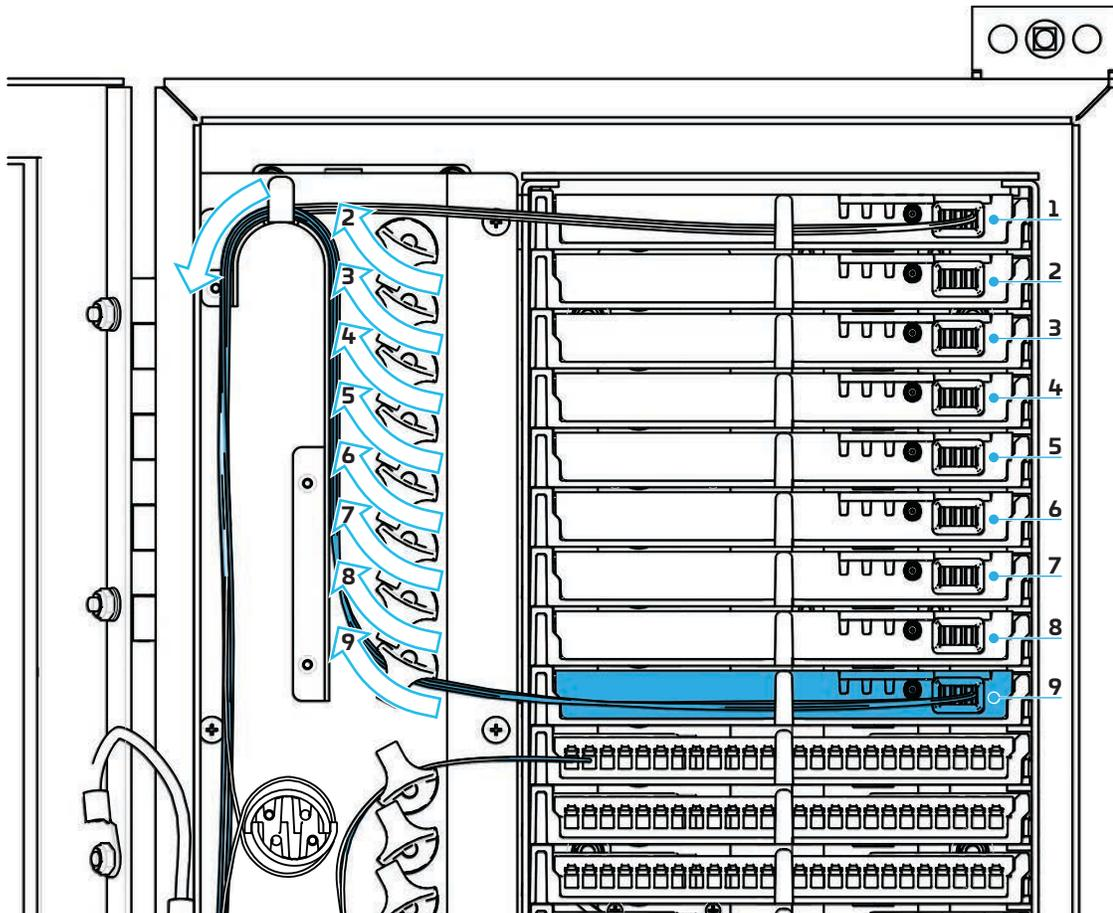

Figure 17. Order of the splitter trays
1. Align the tray with the designated slot. (Figure 17 shows the order of the installation of the splitters).
1. Route the splitter input directly to the left within the cable guide (one guide per splitter module, see Figure 17.) then around the drum at the top. Route the input connector downwards to the feeder ports.
1. Route the splitter output directly to the left within the cable guide (one guide per splitter module, see Figure 17) then around the drum at the top. Route the output connector downwards to a position in the parking lot.